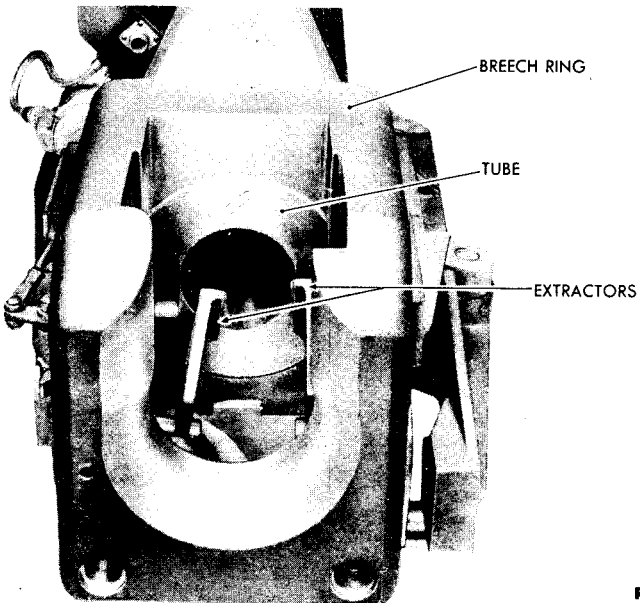

Figure 14 – Removing Extractors from Breech Ring
g. Remove Extractors (fig. 14). Lift the extractors from the extractor trunnion grooves provided in breech ring.